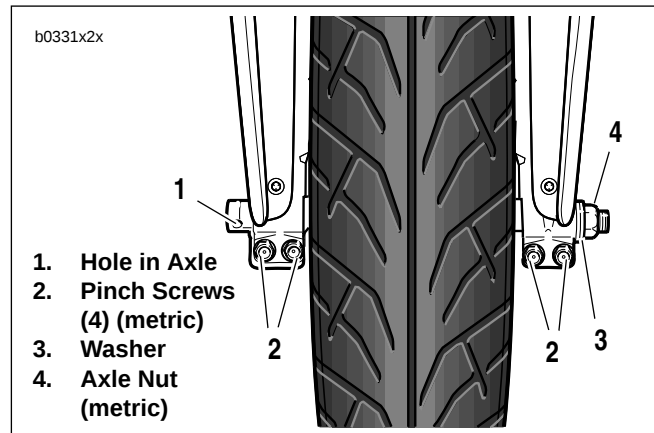

Figure 2-4. Front Wheel Mounting
3. See Figure 2-4. Insert screwdriver/rod through hole in axle (1). Loosen front axle nut (4) (metric).
4. Loosen all four pinch screws (2) (metric).
5. Remove front axle nut (4) and washer (3). Pull front axle out of wheel hub while supporting front wheel.